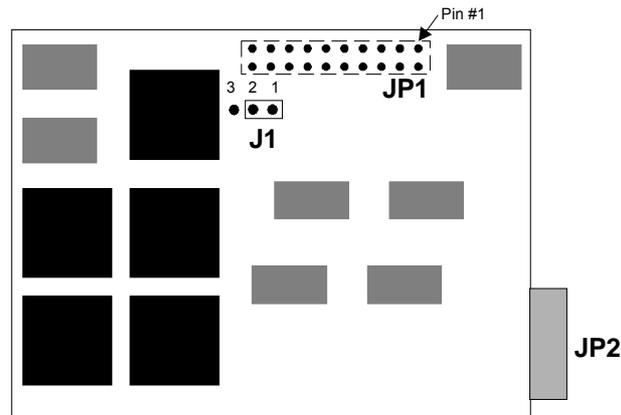

Fig. A-1. On-board connectors and configuration jumpers for *T/SDAS-ADDA4/16Q/200K* DCM.
*T/SDAS-ADDA4/16Q/200K* DCM (fig.1-1, fig.A-1) meets standard SIOX rev.B daughter-card form-factor. Construction of *T/SDAS-ADDA4/16Q/200K* DCM assumes that host *TORNADO* DSP system with *T/SDAS-ADDA4/16Q/200K* DCM installed fits into one ISA-bus slot of PC chassis.
Connection of *T/SDAS-ADDA4/16Q/200K* DCM to external analog I/O equipment is performed by means of on-board JP2 connector (fig.A-1) and external I/O cable set.
The on-board connectors and configuration jumpers are presented at fig.A-1.